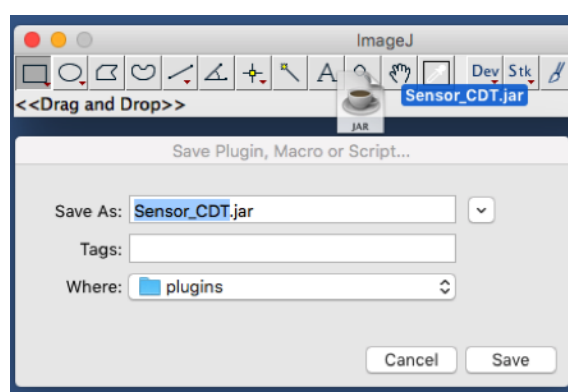

Figure 6: Installing the Sensor CDT Plugin Library: simply drag and drop the *Sensor_CDT.jar* file in ImageJ and save it in the *plugins* folder.
2. Drag and drop the downloaded jar file into ImageJ as shown in figure 6.